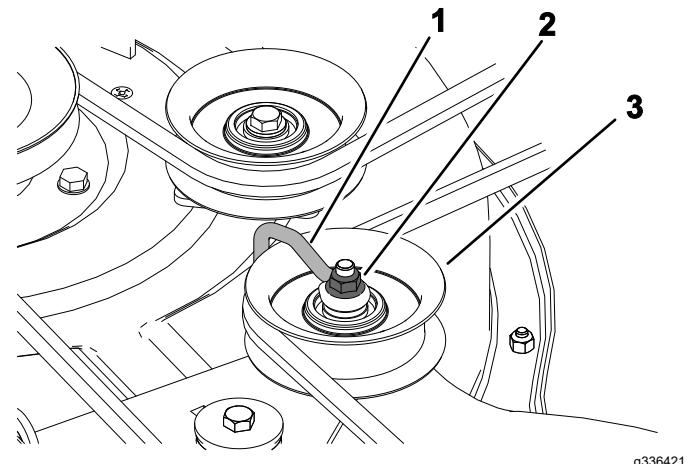

Figure 50
5. For decks with 3 blades, loosen the nut securing the wire form to the idler pulley (Figure 50).
- Note:** Position the wireform against the idler arm as shown in Figure 50.